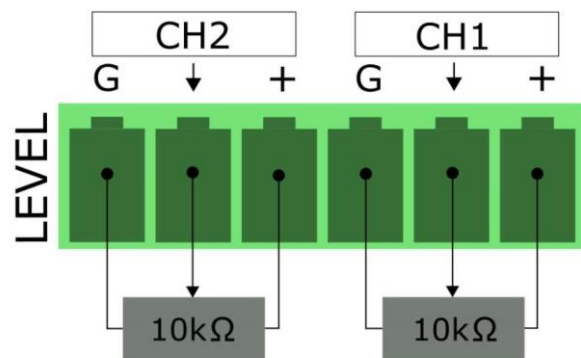

Figure 11 – Diagram of LEVEL Terminals on Amplifier.
In the Canali Series amplifiers, the three pins of the 10kΩ liner taper potentiometer should be connected to the (3) LEVEL terminals associated with the channel you wish to control (Figure 11).